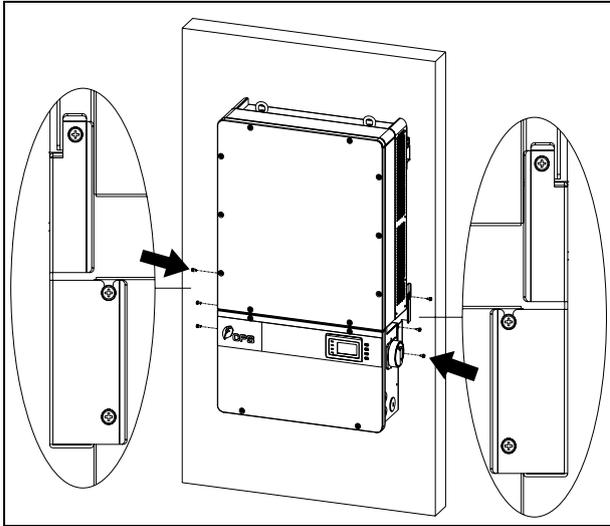

Figure 3-12 Fix the main housing and wiring box on the bracket
(5) Attach the main housing and the wiring box to the mounting bracket with the **M5x10 bolts** (6 pcs). (see Figure 3-12)